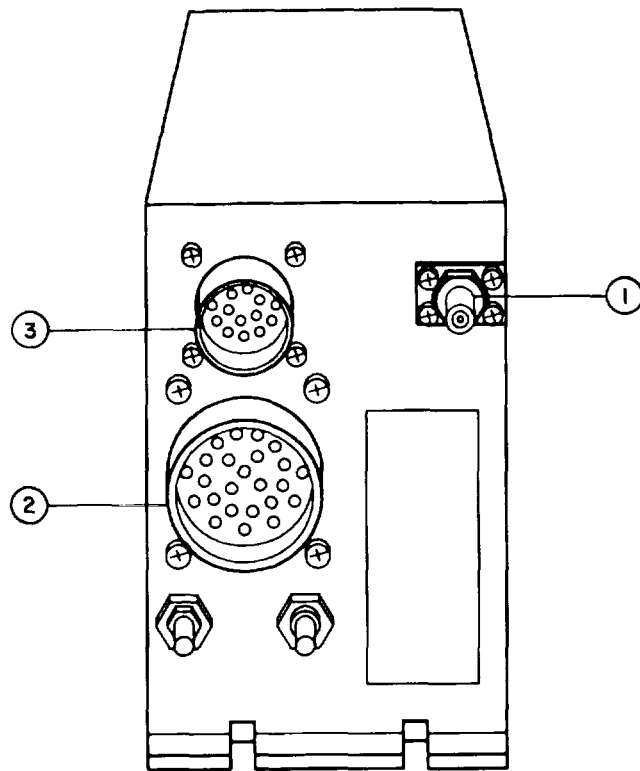

Figure 3-3. RT-1432/U
- (1) Remove cover of electronics box.
- (2) Refer to figure 3-3. Remove connectors from J9732 (1); then, J9731
- (3) then, J9733 (2).
- (2) Place receiver-transmitter in the mounting location by sliding the rear lip (2) of the receiver-transmitter under the top of the rear hold-down assembly (not shown).
- (3) Slide the front hold-down assembly (10) over the front lip of the receiver-transmitter (15).
- (4) Tighten the two nuts and washers (11) on the studs (9) of the front hold-down assembly (10).
- (5) Refer to figure 3-3. Attach connectors to J9733 (2); then, J9731 (3); then, J9732 (1).